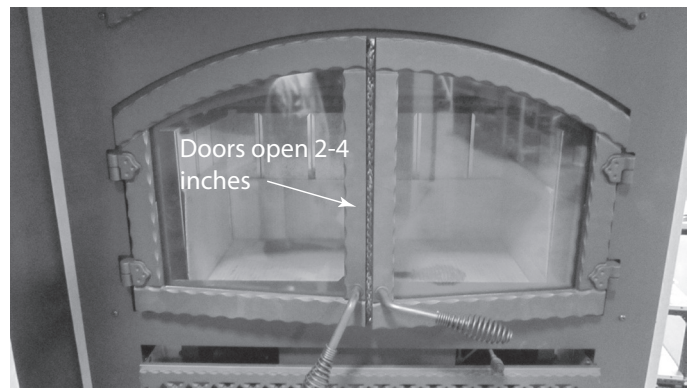
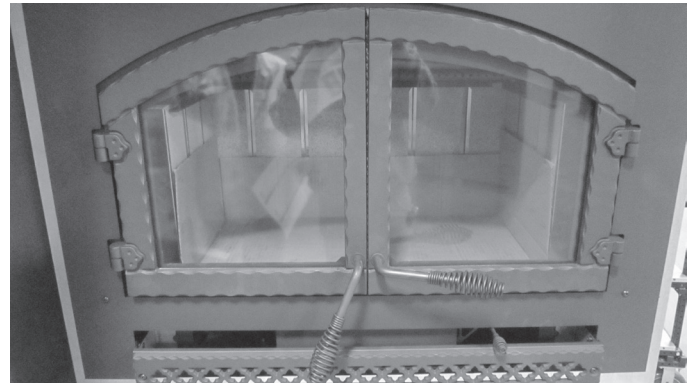
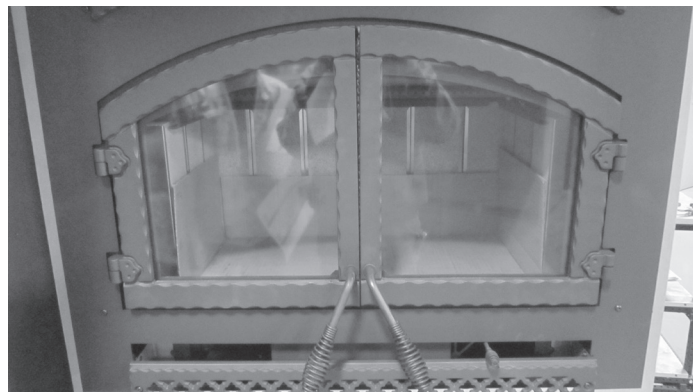

Figure 3.25 Doors Open 2-4 Inches
Figure 3.26 Doors Latched Lightly
Figure 3.27 Doors Fully Closed
- Leave the door slightly open 2-4 inches (see Figure 3.25) for 2-3 minutes then close the door, latching it lightly to allow the flame to get going good.
- Leave door slightly open 2-4 inches (see Figure 3.25) for 1-3 minutes or until a good flame is present. Then close the door, latching it lightly. See Figure 3.26.
- After the flame gets established (approximately 3-5 minutes) shut and latch the door. See Figure 3.27.
- Leave the door slightly open 2-5 inches (see Figure 3.25) for up to 5 minutes to get a good flame going then close the door. See Figure 3.27.